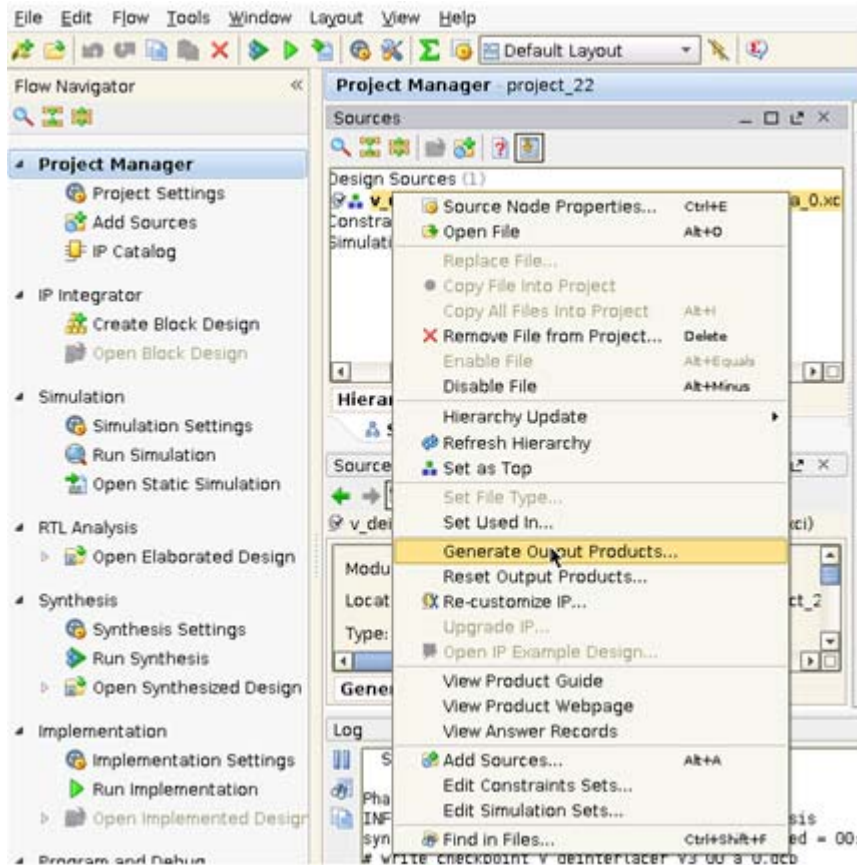

Figure 9-1: Sources Pane
1. After customizing the IP, right-click on the core instance in **Sources** pane and select **Generate Output Products** (Figure 9-1).